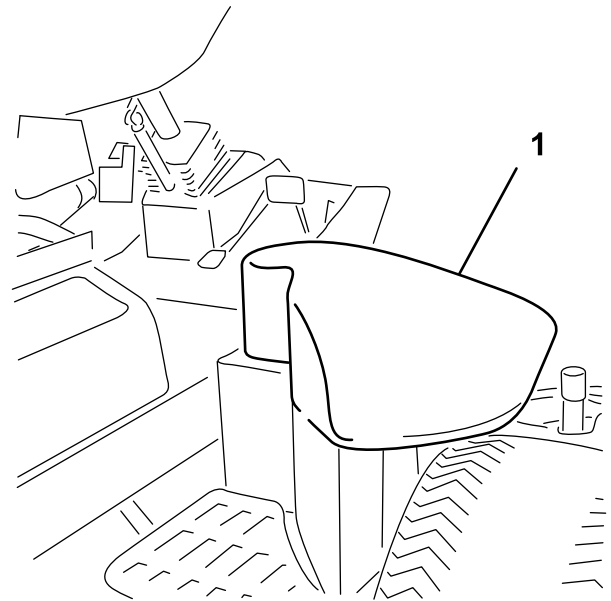

Figure 36
2. On the right side of the machine, raise the hydraulic tank cover (Figure 36).